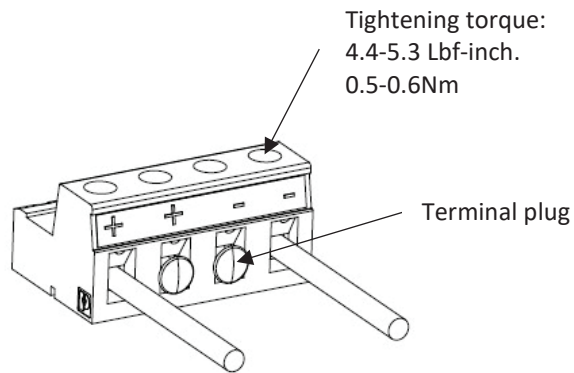

Figure 4-70: Two Wires Connection to The Output Plug
3. In case only two wires are connected to the load, insert the terminal plugs provided in the accessories kit to the vacant terminals as shown in Figure 4-70.